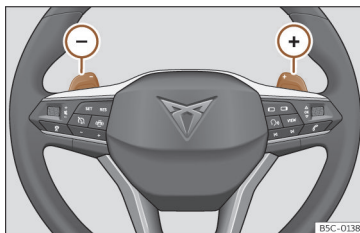

Fig. 141 Steering wheel: automatic transmission levers
- Press the gearshift paddle to select a higher gear >>> **Fig. 141**.